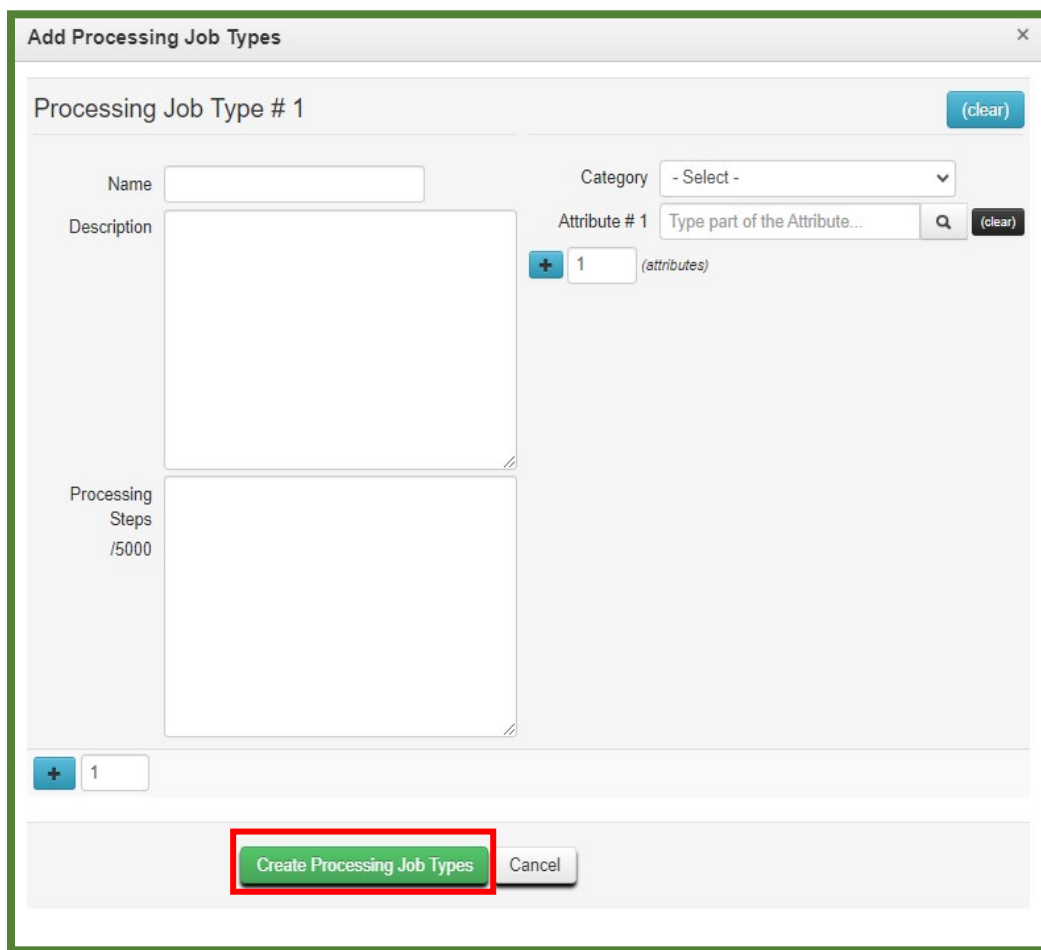

Figure 3: Add Processing Job Types action window
- e. Attribute #1 is used to add one or more Attributes that pertain to the Processing Job Type from the DOH-created options. Attributes can be added by typing in the attributes needed into the attribute field or by selecting the magnifying glass icon and choosing the appropriate option from the group of attributes. To add additional attributes, select the blue plus icon button – see **Figure 3**.